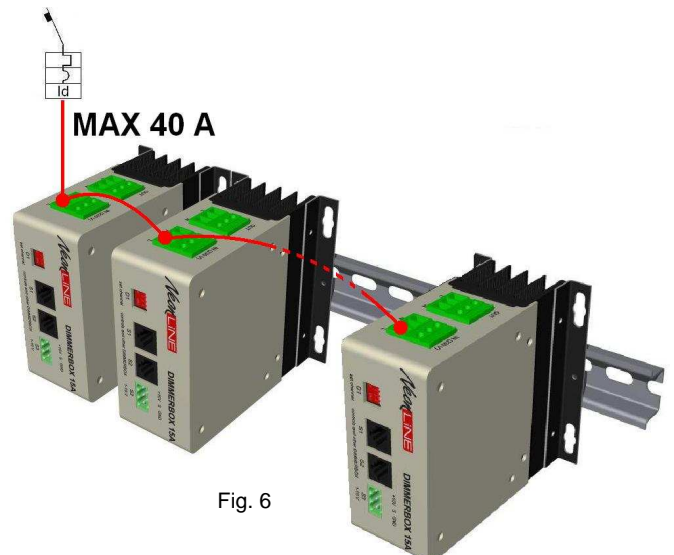

Fig. 6
b) Single-phase supply, above 15 A (Figures 6 and 7)
c) Three-phases supply (Figures 6 and 8)